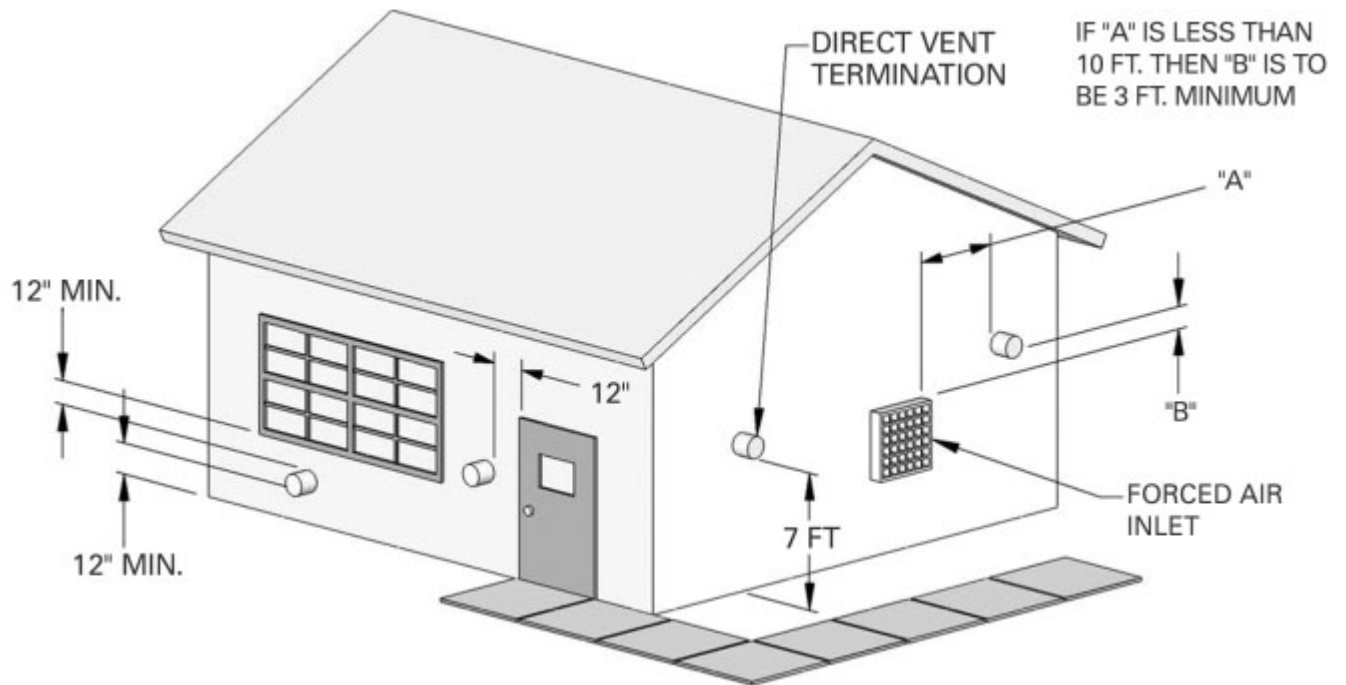

Fig. 4.1
- b. See Figure 4.1 for an illustration of clearances for location of exit terminals of direct-vent venting systems.